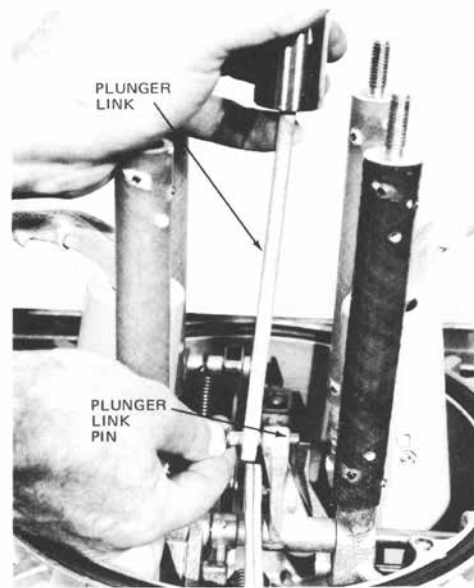

Figure 5. Removal of plunger link pin and plunger link.
18. Remove the plunger link pin and the plunger assembly (Figure 5).